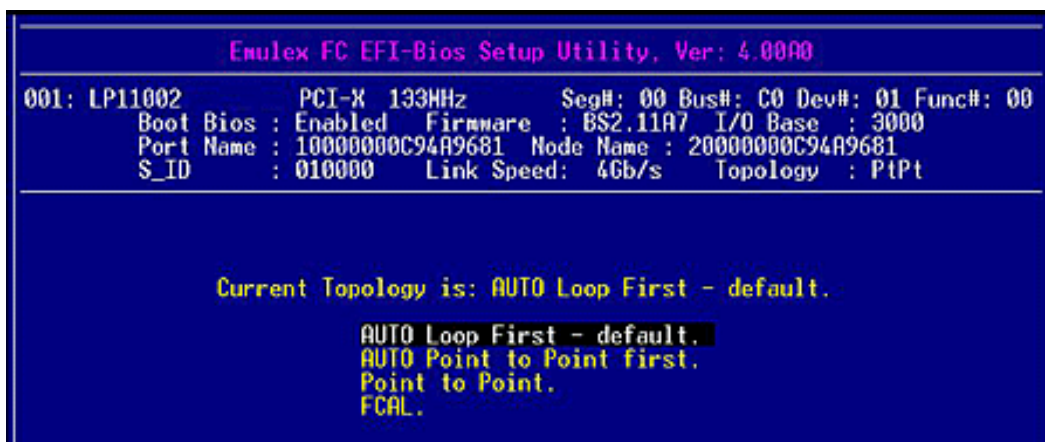

Figure 6-11 Topology Options screen
1. On the Adapter Configuration menu, select **2. Topology Selection** and press **<Enter>**. The screen shown in Figure 6-11 is displayed.